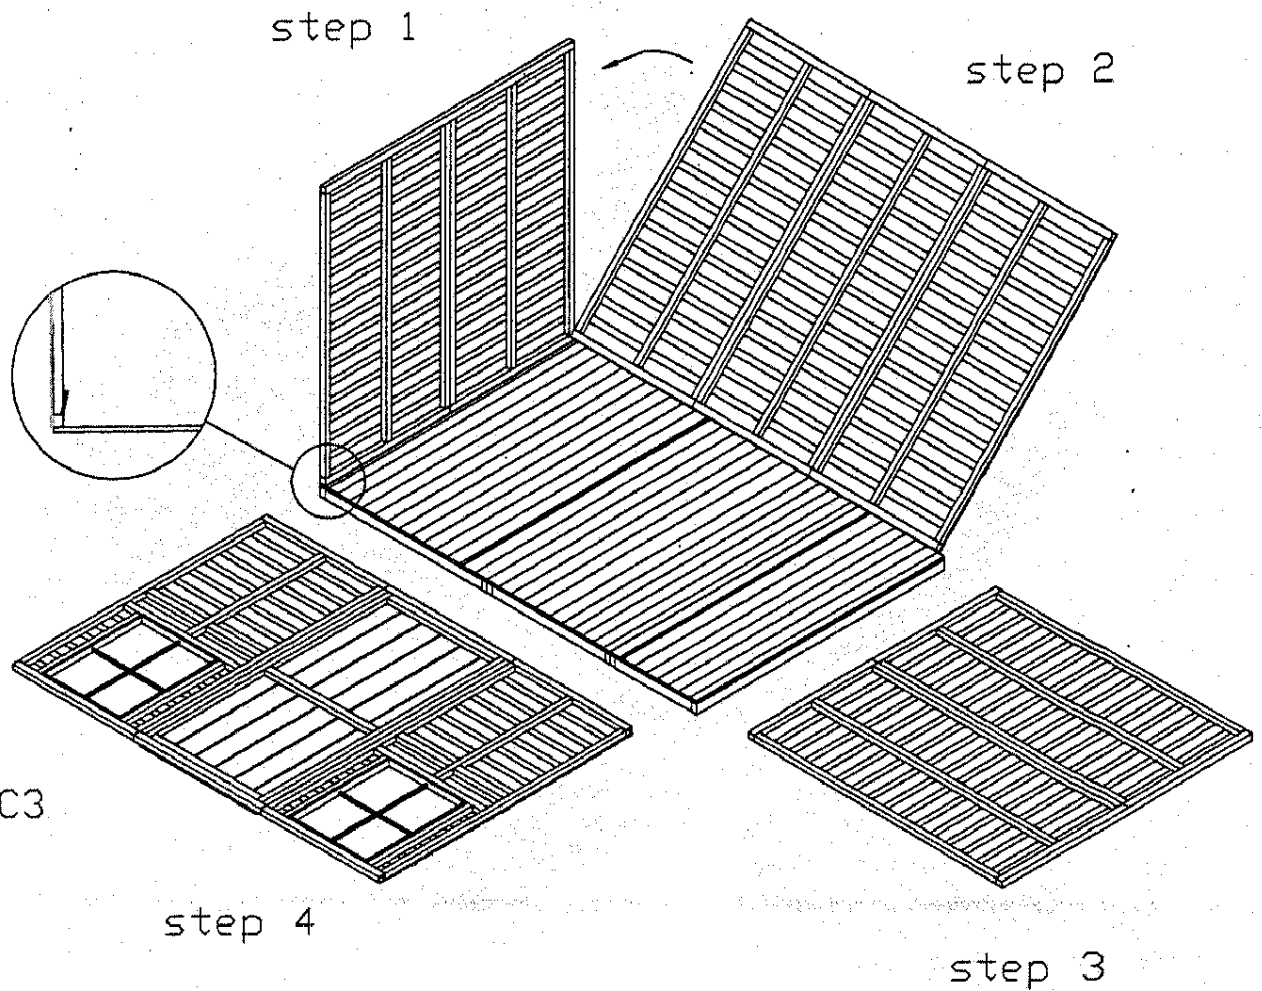

Figure C3
3. With the help of an assistant, erect the left wall and the rear wall and hold. The sidewall should meet the rear wall in a butt joint [see Figure C3]. The wall panels should be flush with the outside edge of the floor panels. Fasten using 3" screws every 12 inches.